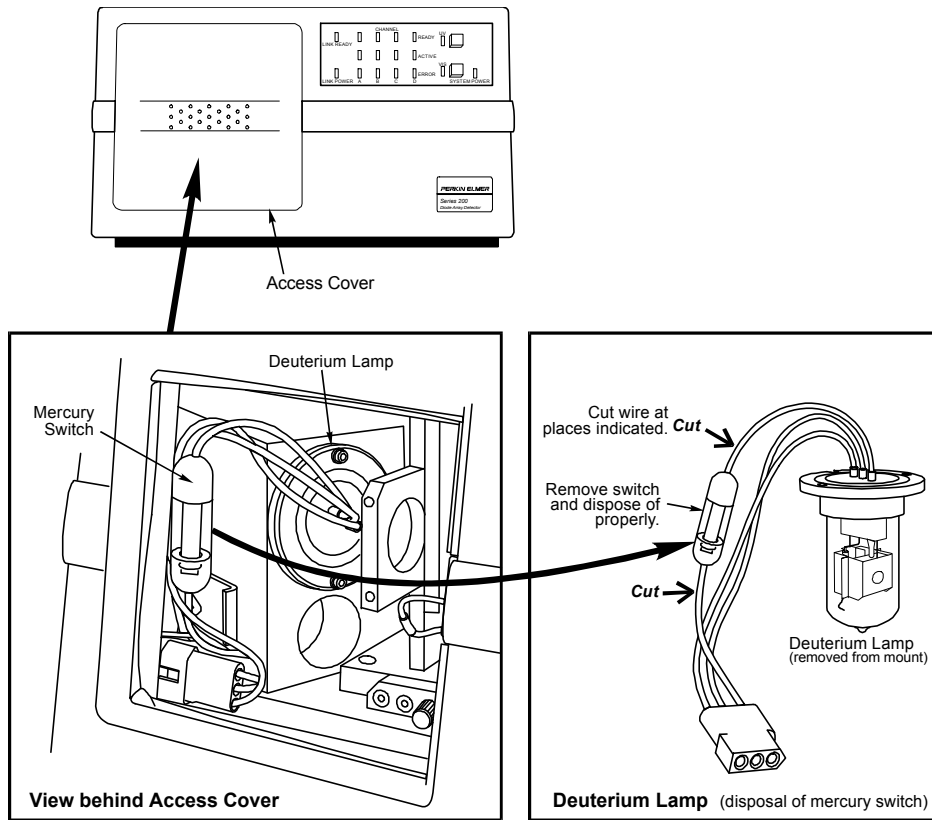

Figure 4-2. Removing the mercury timer switch for disposal
7. The deuterium lamp contains a mercury timer switch. Remove the timer switch from the lamp assembly as shown in Figure 4-2 and dispose of it properly.